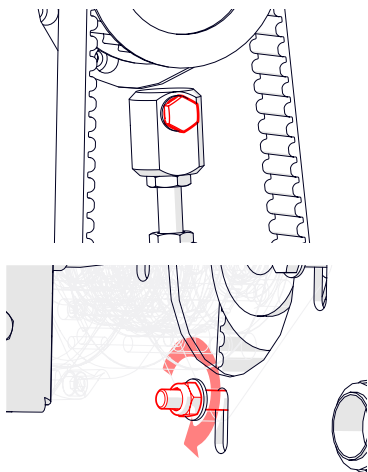

Fig. 19I - Tighten the tensioner block/motor nut.
9. Tighten the nut supporting the tensioner block [2 x 13 mm spanner]- secure from the outside of the machine and tighten from the inside (Fig.19I).